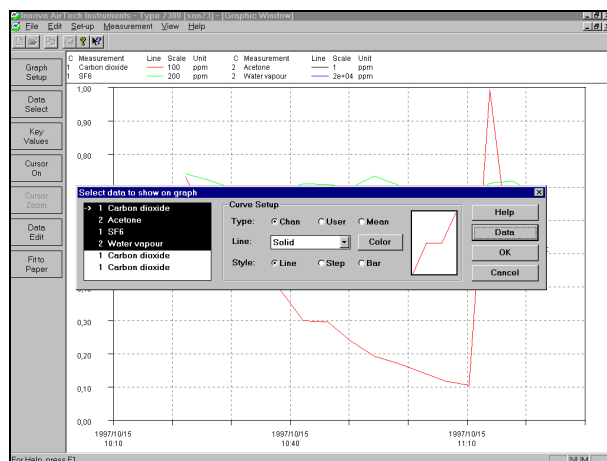

Fig.5.3 The Select data to show on graph dialogue
1. Click on **Data Select** in the panel. The select data to show on graph dialogue will be displayed, Fig.5.3.